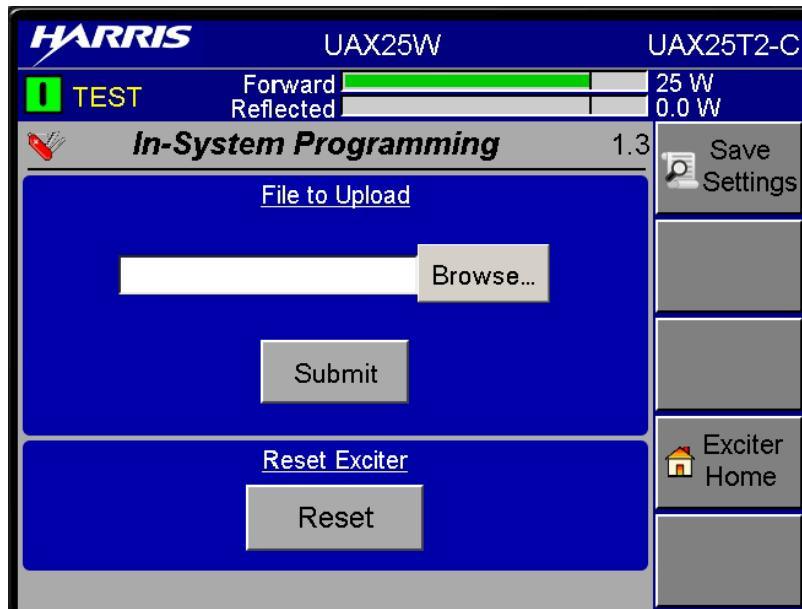

Figure 5-14 UAX-C In-System Programming Screen
STEP 5 Press the ISP soft key on the right side of the Setup page. The In System Programming screen, shown in Figure 5-14, will be displayed.